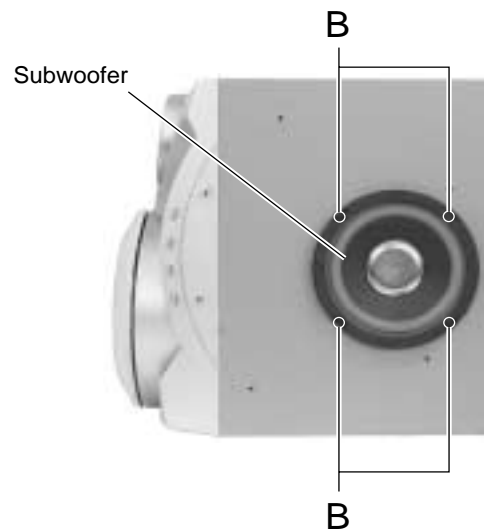

Fig.2
2. When the flywheel R is rotated in counterclockwise direction, the playback / recording & eraser head will be turned in counterclockwise direction from the position in Fig.2 to that in Fig.3.
### ■ Removing the subwoofer (See Fig.2)